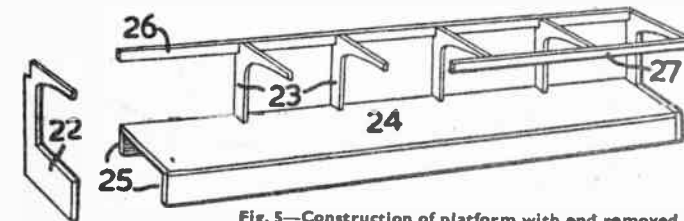

Fig. 5—Construction of platform with end removed for clearness
Platform Units (E—parts 22 to 28) are next made. Cut out the pieces marked, to the dimensions shown, and build in box formation. The ends contain the supports and arms for the roof (see Fig. 5). Put on these two ends first, and then add long strip (26) which is glued in the top of the support. The four supports (No. 23) are glued equidistant between the ends, and finally the front strip (27) is glued to each forward edge.